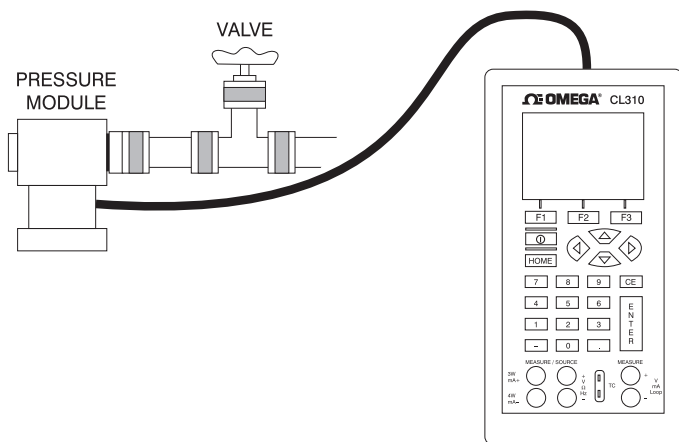

Figure 18. Measuring Pressure Transmitter
1. Connect the pressure module to the calibrator as shown in Figure 18.